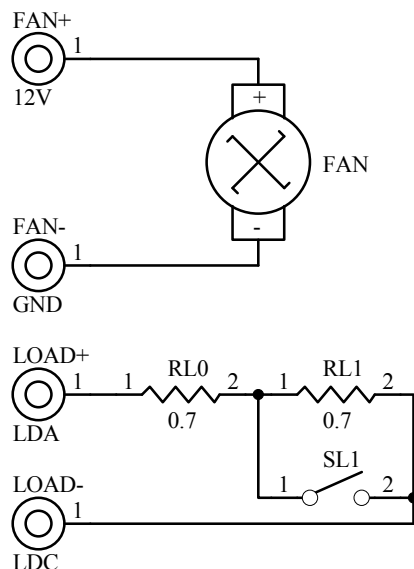

Figure 8 Schematic of Load
The schematic of load is shown in Figure 8 below.
- Test the controller with the “dummy laser”. The unbreakable power resistors load, RL0 and RL1, can form a “dummy laser” to act as the laser diode in the place of a real laser so that in case there is a problem in the circuit, the expensive laser would not be damaged, see schematic in Figure 8. Turning switch SL1, off and on will increase (turning off the switch) and decrease (turning on the switch) the forward voltage of the “dummy laser” which can be measured by a volt meter between the LDA and the ground.
sets of the data are plotted in Figure 8.